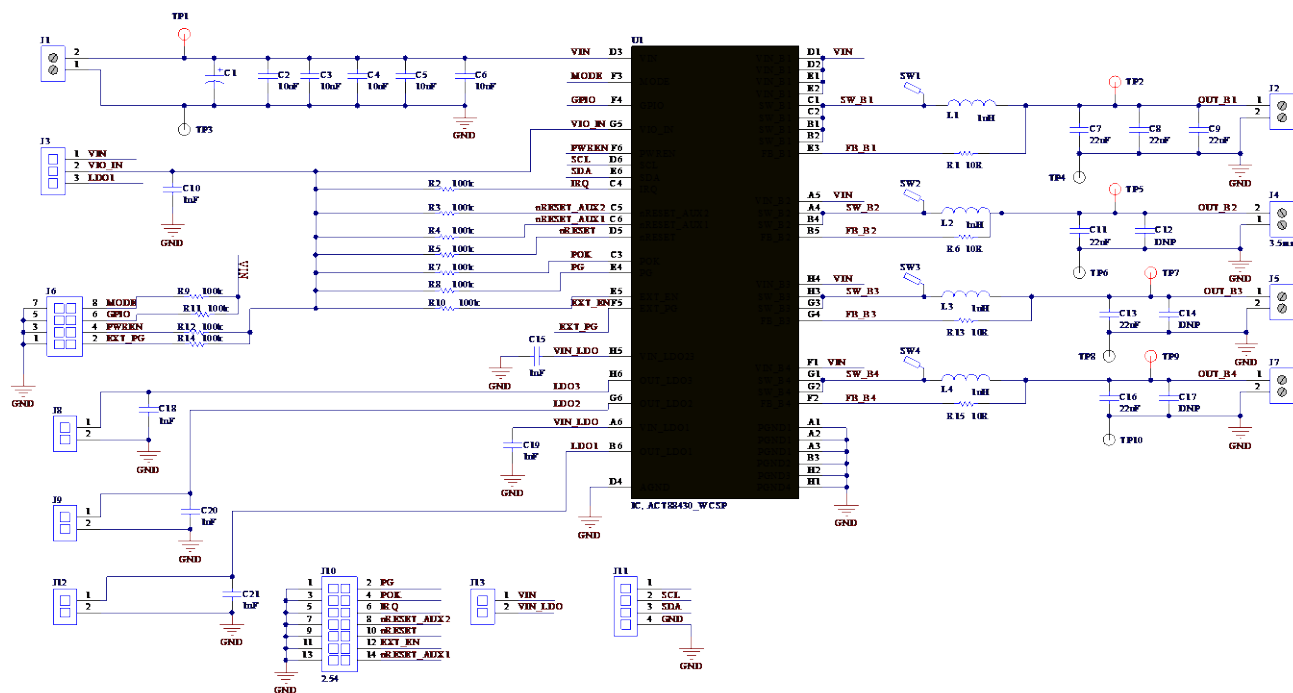

Figure 4 – ACT88430 EVK1-109 Schematic
3. Connect the USB-TO-I2C dongle to the EVK J14 connector. Refer to Figure 4 to ensure the correct polarity of the connection. As a guide, use the “Qorvo” logo or (“Active-Semi”) logo on the top of the dongle so the black wire is connected to the Dongle GND pin.